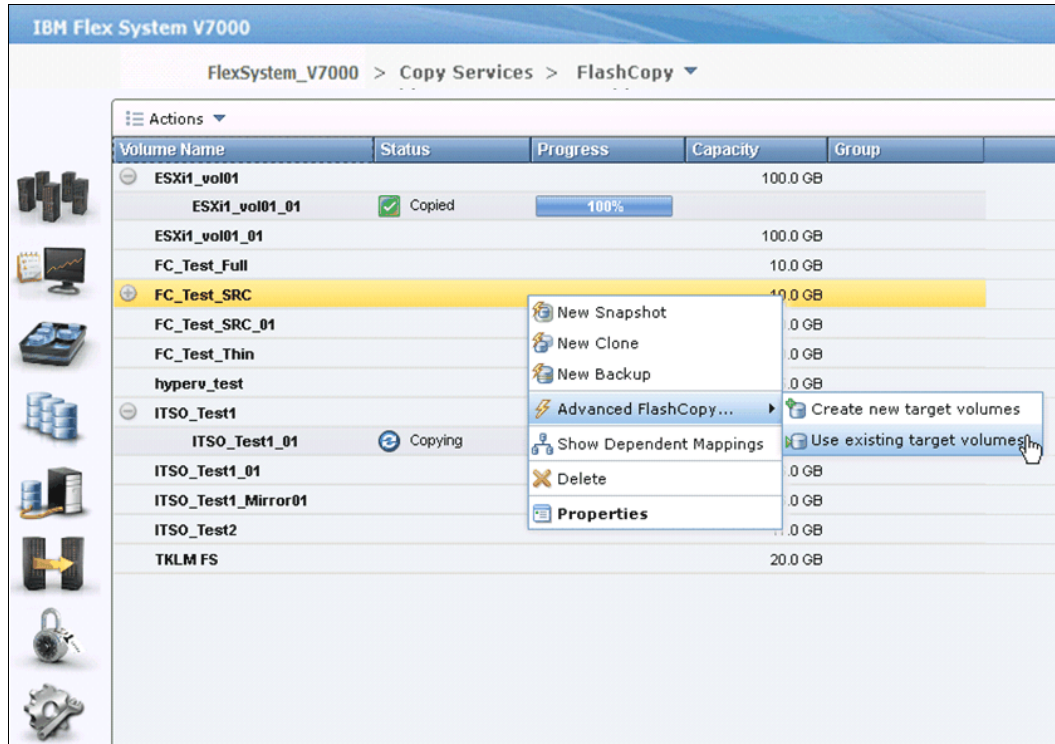

Figure 9-25 Create FlashCopy mapping using existing target volume
- ▶ In the Advanced FlashCopy menu, if you already have candidate target volumes, select **Use existing target volumes** (Figure 9-25).